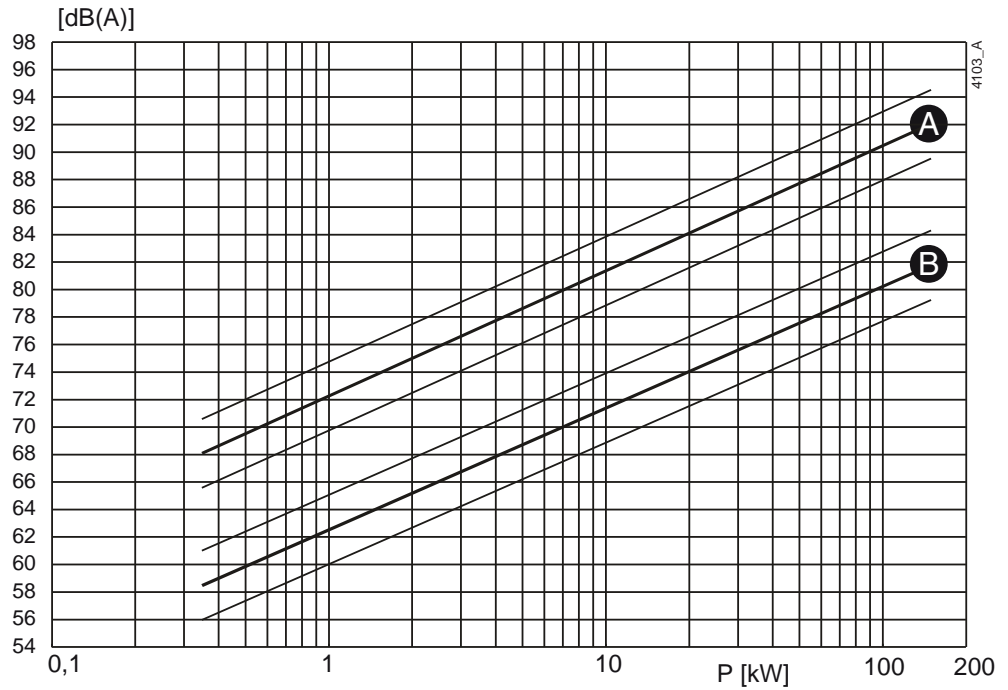
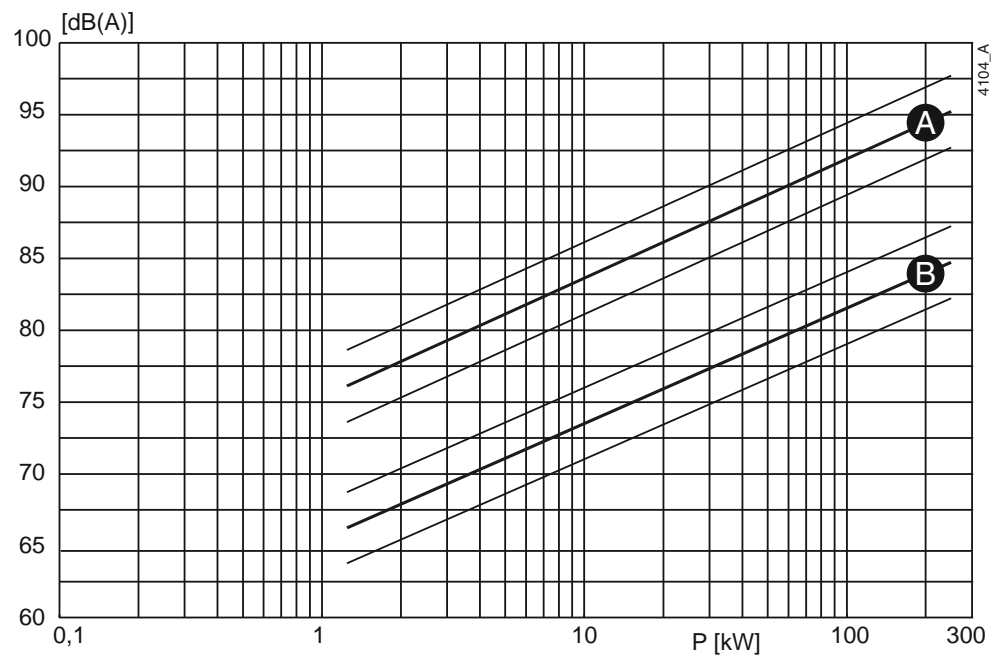

Figure 21: Noise level as function of pump power [kW] at 1450 min⁻¹
Figure 22: Noise level as function of pump power [kW] at 2900 min⁻¹
- 1 Determine the noise level (L1) of the pump, see figure 21 or figure 22.